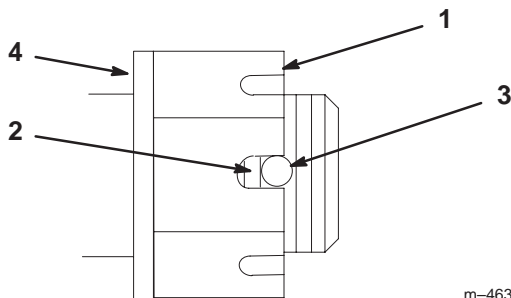

Figure 47
3. Torque slotted nut to 125 ft-lb (170 N•m) (Fig. 47).
4. Check the distance from bottom of slot in nut to inside edge of hole. Two threads or less should be showing (Fig. 47).
5. If more than two threads are showing remove nut and install washer between hub and nut (Fig. 47).
6. Torque the slotted nut to 125 ft-lb (170 N•m) (Fig. 47).
7. Tighten nut until the next set of slots line up with the hole in the shaft (Fig. 47).